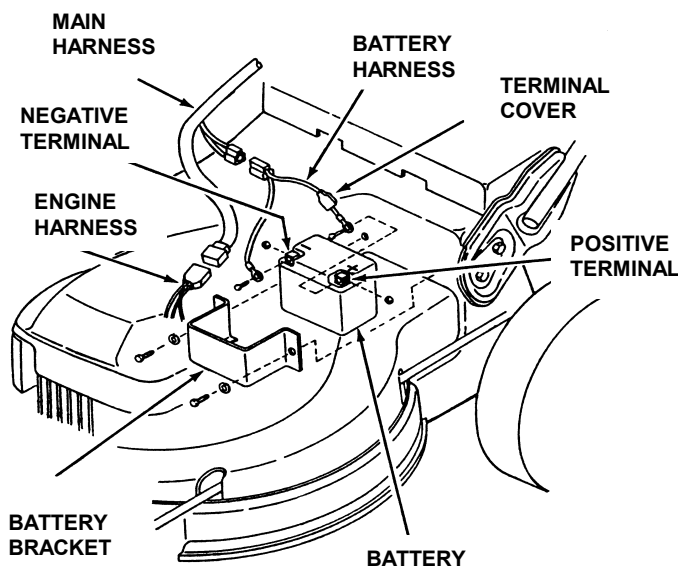

FIGURE 4.8
1. Loosen bolts that secure battery bracket to the deck. See Figure 4.8.